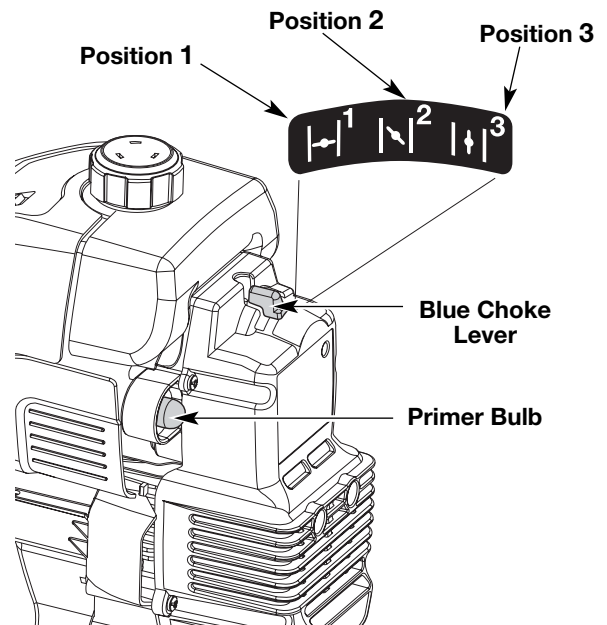

Fig. 7
3. Fully press and release the primer bulb 10 times, slowly. Some amount of fuel should be visible in the primer bulb and fuel lines (Fig. 7). If you can't see fuel in the bulb, press and release the bulb as many times as it takes before you can see fuel in it.
4. Place the blue choke lever in **Position 1** (Fig. 7).
9. Once the engine is warmed up, place the blue choke lever in **Position 3** (Fig. 7). The unit is ready for use.
**IF...** The engine hesitates, return choke lever to **Position 2** (Fig. 7) and continue warm up.